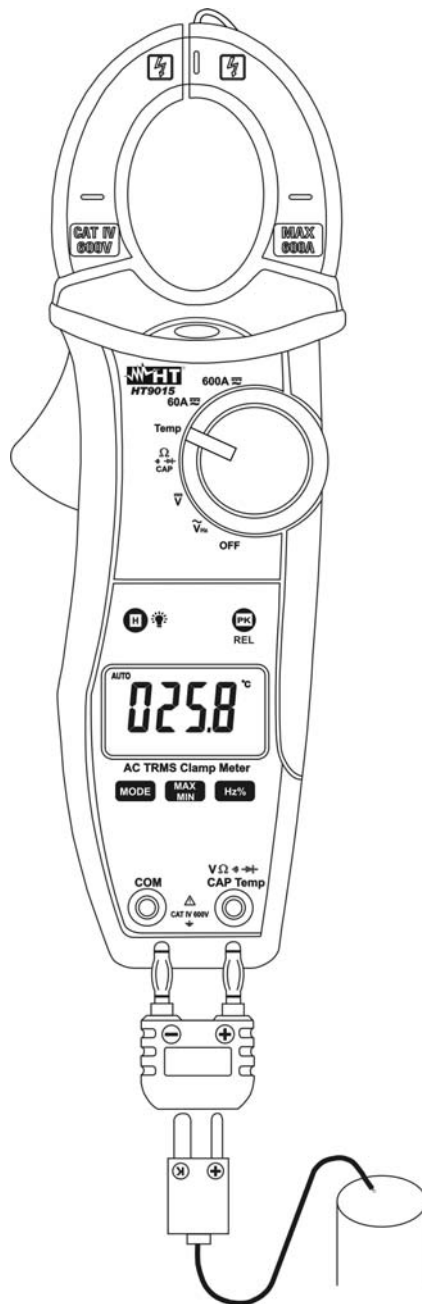

Fig. 8: Taking Temperature measurement
3. Insert the type K bead probe in **VΩ + CAP Hz %Temp** and **COM** inputs terminals using the standard adapter and observing the correct polarity (see Fig. 8). The temperature value is shown at display